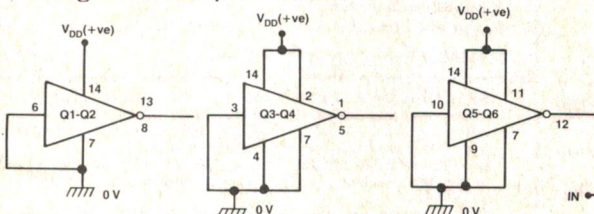

Figure 12. Individual 4007UB complementary MOSFET pairs can be disabled by connecting them as CMOS inverters and grounding their inputs.
The usage rules of the 4007UB are quite simple. In any specific application, all unused elements of the device must be disabled. Complementary pairs of MOSFETs can be disabled by connecting them as standard CMOS inverters and tying their inputs to ground, as shown in Figure 12. Individual MOSFETs can be disabled by tying their source to their substrate (B) and leaving the drain open circuit.